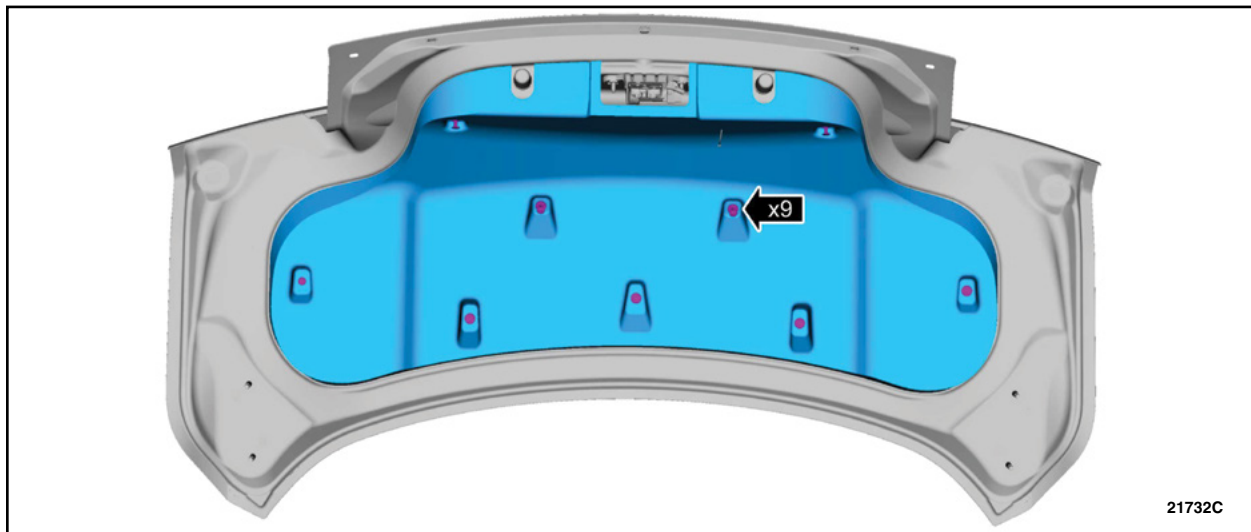

FIGURE 30
42. Remove the retainers and remove the luggage compartment lid trim panel. See Figure 30.